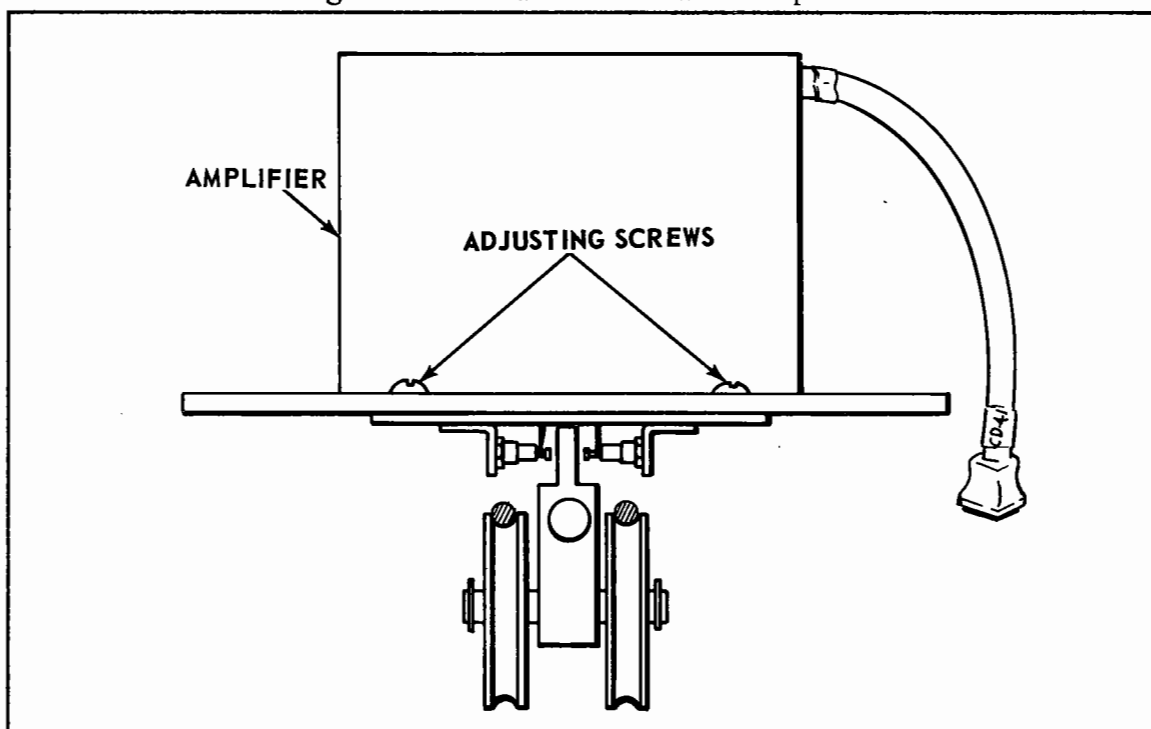

Figure 3-9. Pendulous Sensor with Amplifier
- d. Centering procedure for pendulous type trim sensor with amplifier. (Refer to Figure 3-9.)
- (b) Carefully loosen the two adjusting screws to permit the contact adjustment bracket to move with some friction. (Refer to Figure 3-9.)